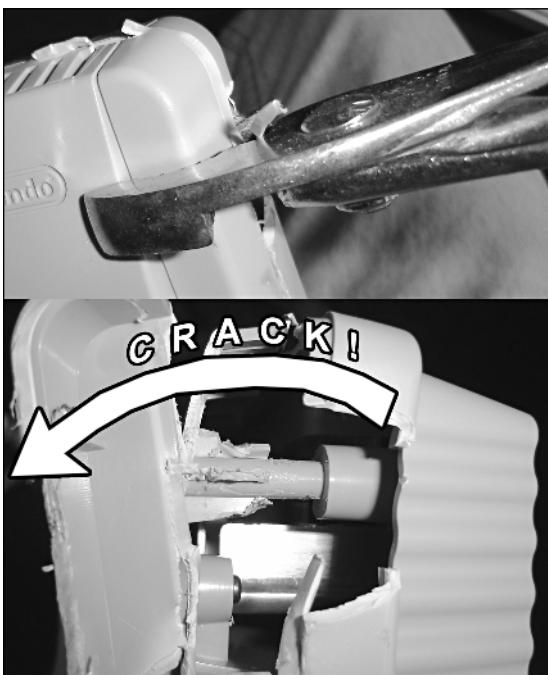

FIGURE 9-4: Prying the case open to reveal the screw posts.
- Take a large pair of pliers and grip on the outer edge of the hole you've created. Bend it up and snap it open as seen in Figure 9-4. You now have access to the screw post.